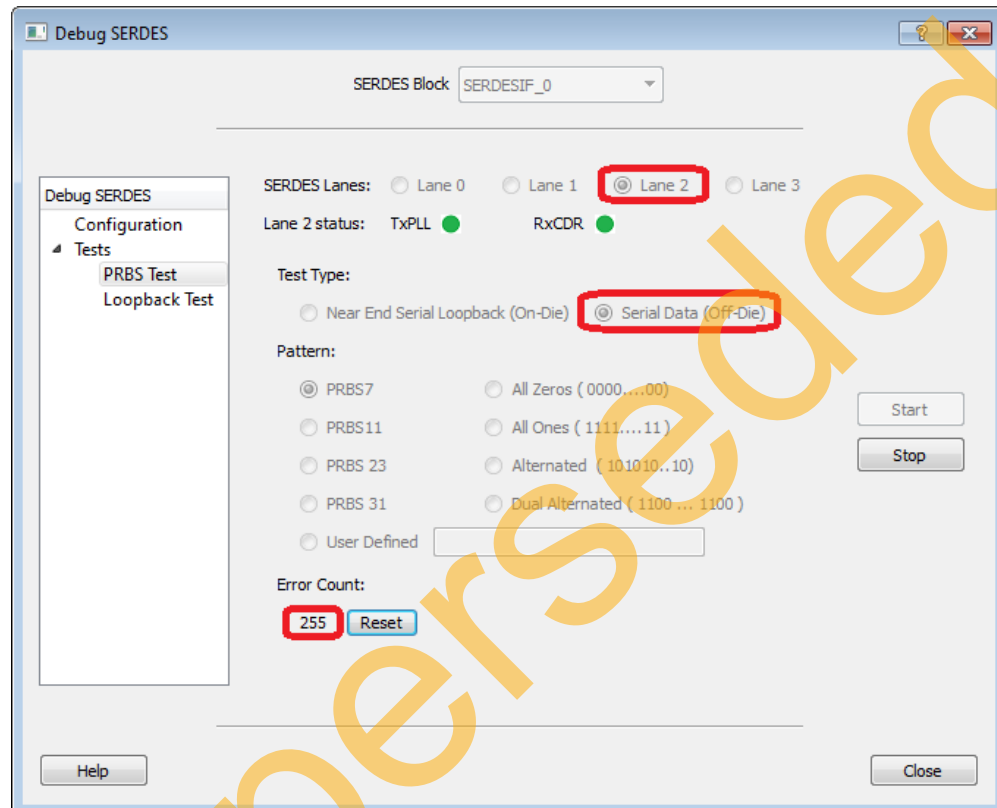

Figure 30 • Lane 2 Transmitting Data Off-Board
7. The Lane 2 SMA test connections can be used for interconnecting with high-speed coax cables to test equipment or other test fixtures like test backplanes. In the example shown in Figure 30, when the Lane 2 test is started without any means to connect the Tx and Rx together, the Error Count will increment; as the link is broken between the pattern generator and the checker. This setup will send a data pattern of the board for analysis on the test equipment, such as a high speed oscilloscope does